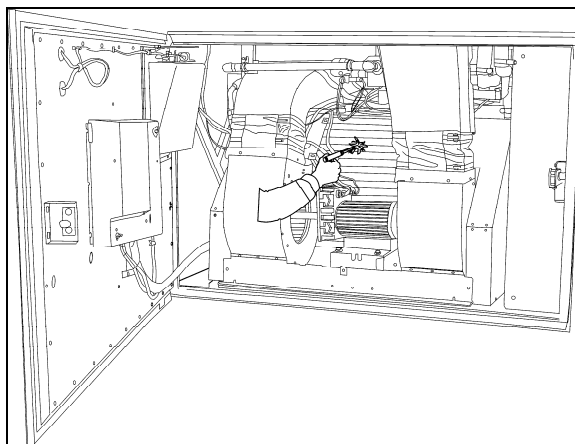

FIGURE 13: EVAPORATOR COIL CLEANING
*The driver's area air temperature sensor is located behind the grill of the R.H. side console (Refer to fig.13).*